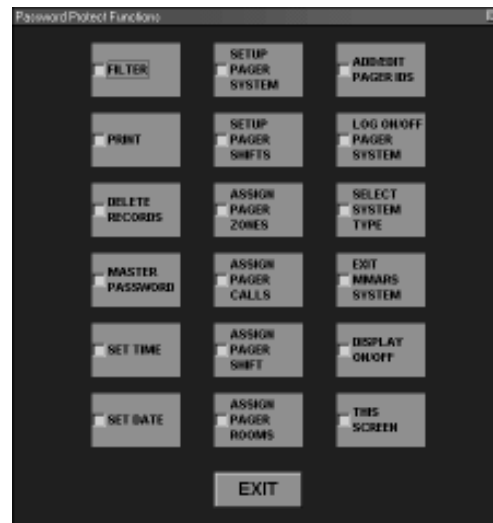

Figure 21: Password Protect Functions
6. Refer to *Figure 21* for the **PASSWORD PROTECT FUNCTIONS** menu that will appear.